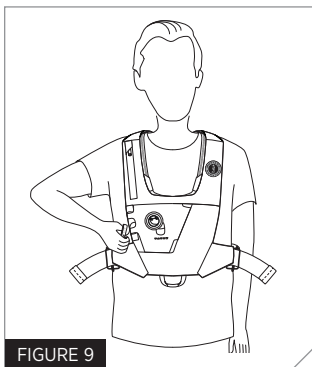

FIGURE 9
- Grab the handle with your right hand (thumb up) and pull (Fig. 9). The motion will be a short arc forward and to your right. Your PFD inflates within 5 seconds.